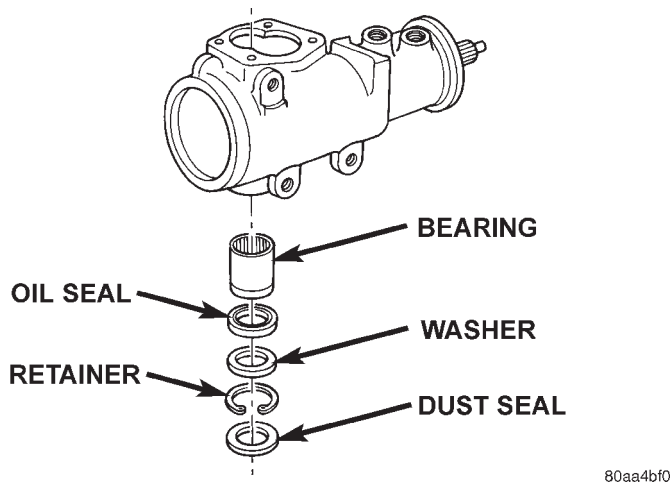

Fig. 9 Pitman Shaft Seals & Bearing
(6) Remove dust seal from the housing with a seal pick (Fig. 9).